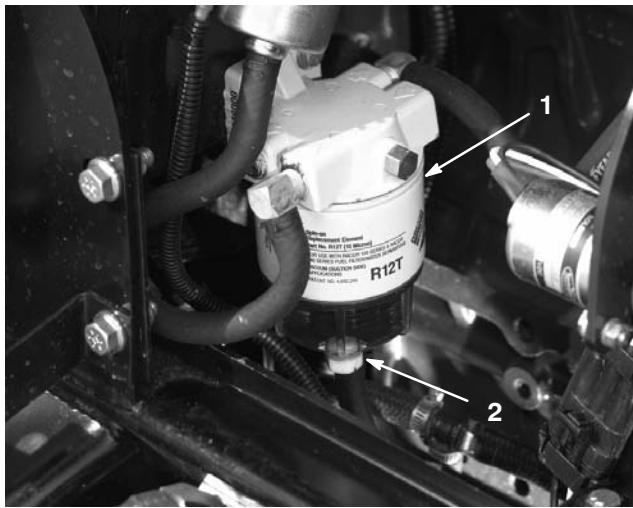

Figure 49
Drain water or other contaminants from the water separator (Fig. 49) daily.
2. Loosen the drain plug on the bottom of the filter canister (Fig. 49). Tighten the plug after draining.